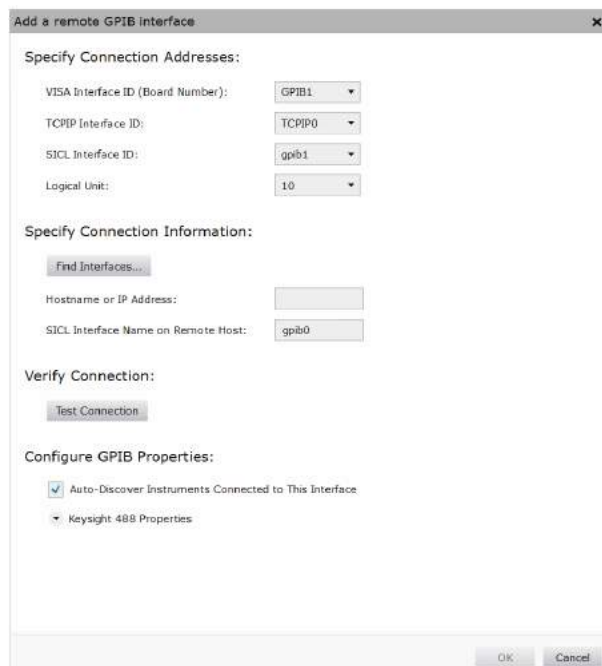

Figure 2-10 Remote GPIB interface dialog box
- 4 The **Add a remote GPIB interface** dialog box is shown in Figure 2-10.